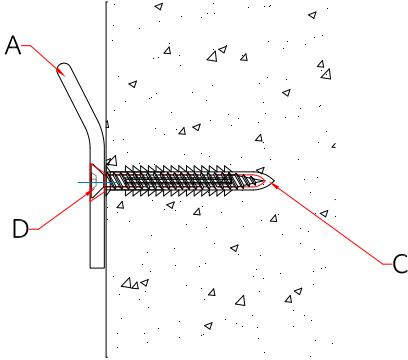

FIGURE 1B
- **DRYWALL WITH STUDS:** Use screws to affix to studs, and use hollow wall anchors and screws to affix to drywall. See FIGURE 1B.